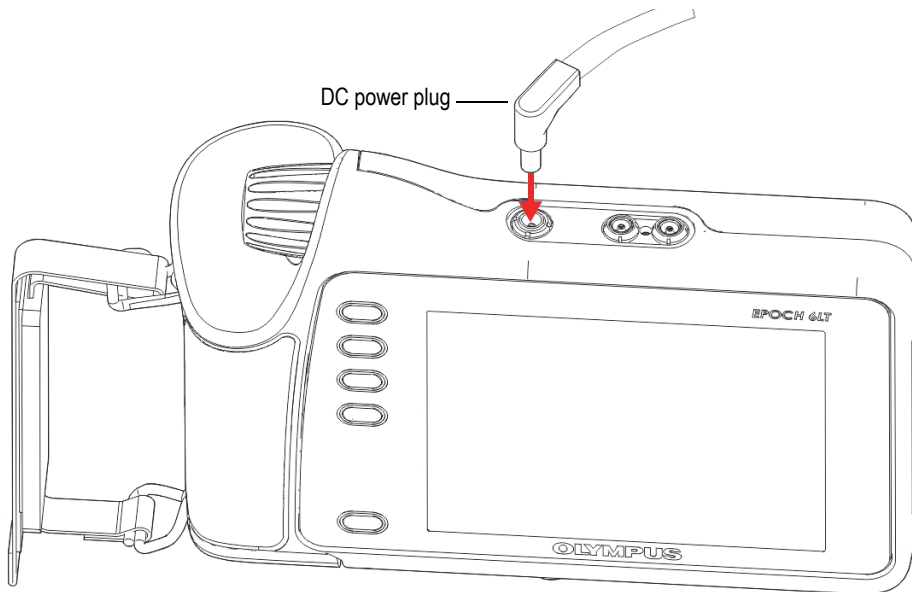

Figure 3-1 Connecting the DC power plug
1. Plug the DC power plug into the AC charger/adaptor connector on the instrument (see Figure 3-1 on page 42).